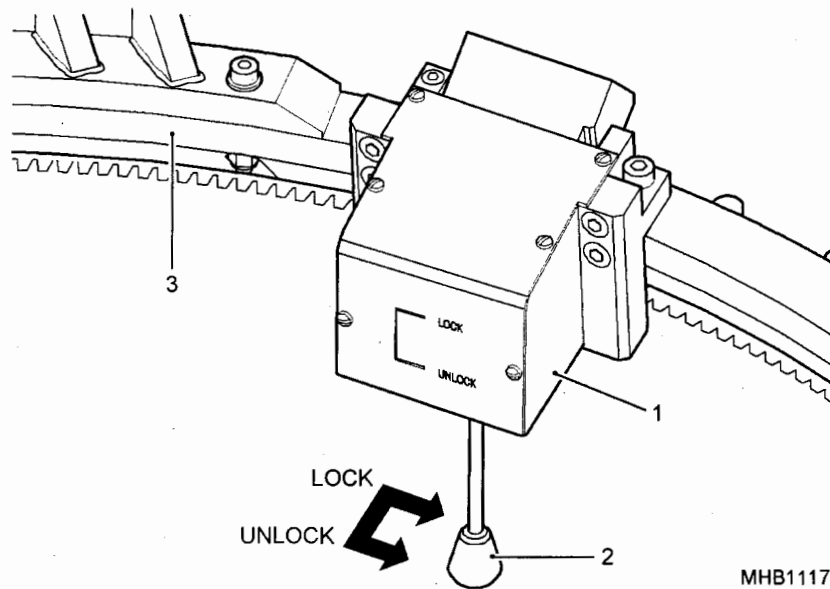

Fig 13 Slewing Ring brake
16.1 Unlock the Slewing Ring by operating the brake mechanism (Fig 13).
19 The Slewing Ring (Fig 13 (3)) is locked in position by a lock (1).
19.1 The Slewing Ring lock is operated by a single lever (2), which is spring loaded and may be placed in either the LOCKED or UNLOCKED positions.
20.2 Unlock the Slewing Ring by operating the brake mechanism (Fig 13).
22.3 Lock the Slewing Ring in position by use of the Slewing Ring locking mechanism (Fig 13)